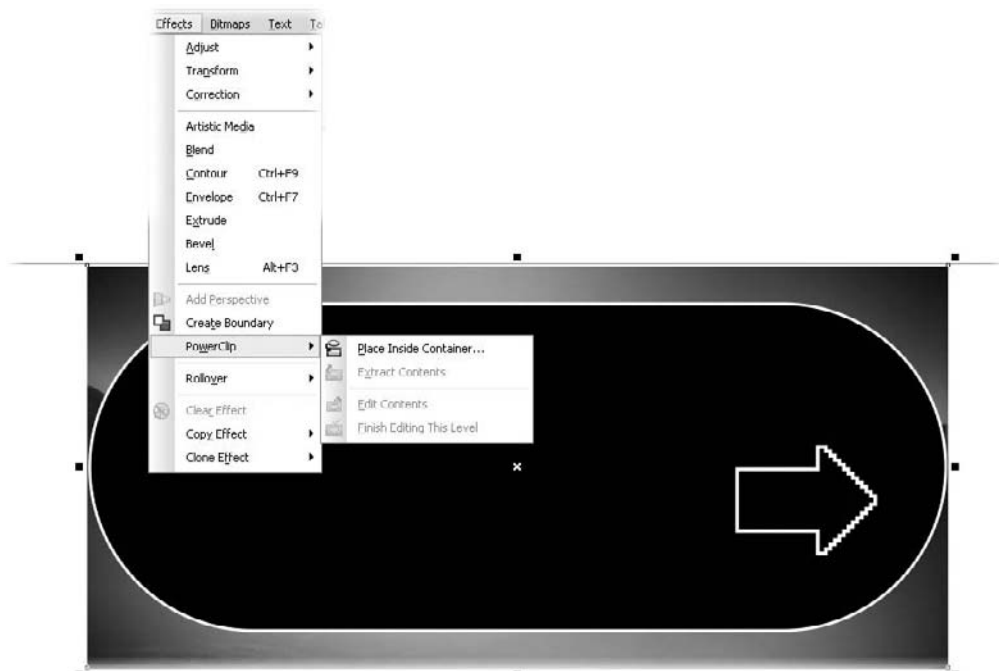

FIGURE 23-9 The cursor is a targeting device to choose the container for the object to be clipped.
7. With the Pick Tool, select the image underneath the blue lozenge, and then choose Effects | PowerClip | Place Inside Container, as shown in Figure 23-9. Your cursor turns into a targeting cursor, and you now click the blue lozenge shape: the environment image is now contained within the blue lozenge shape. Contained objects are usually auto-centered within the container shape; this is good in this example—repositioning contained objects is covered later in this chapter.